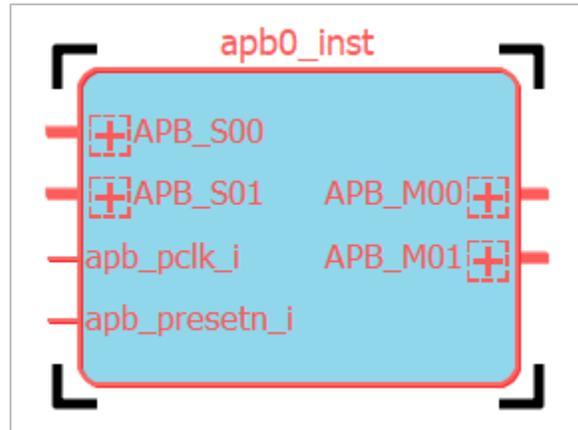

Figure 2.65. Select Module
1. Select the desired module block. The block is highlighted in red with black corners (Figure 2.65).